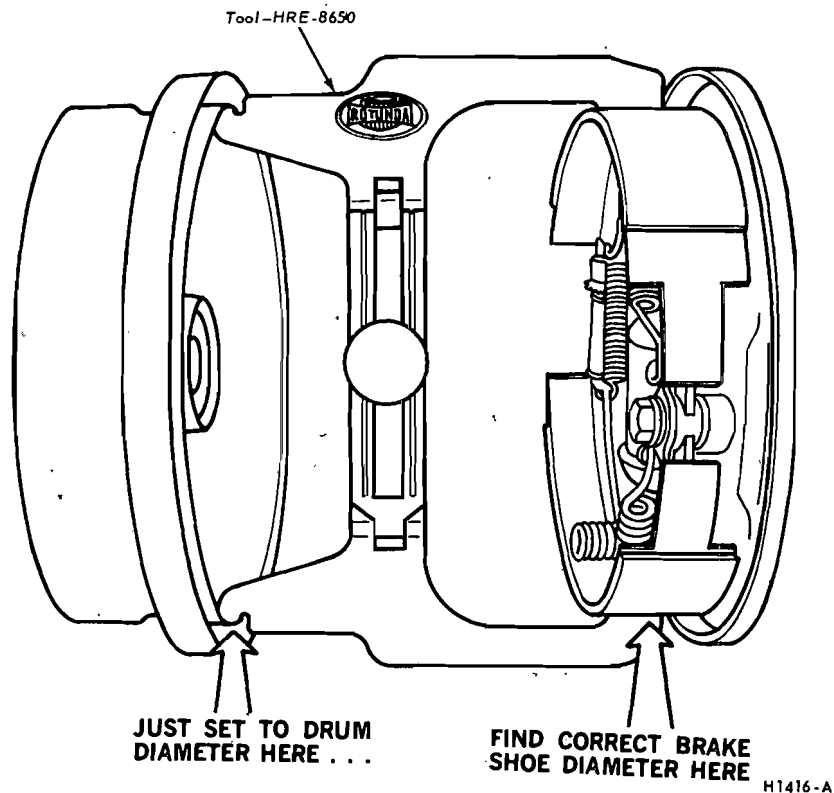

FIG. 5 Adjusting Brake Shoes Using Tool HRE-8650
1. Use Rotunda Tool HRE 8650, (Fig. 5) to determine the inside diameter of the drum braking surface.
2. Use the tool as shown in Fig. 5 and adjust the brake shoe diameter to fit the gauge. Hold the automatic adjusting lever out of engagement while rotating the adjusting screw, to prevent burring the screw slots. Make sure the adjusting screw rotates freely. If necessary, lubricate the adjusting screw threads with a thin, uniform coating of lubricant (ESA-M1C75-B).